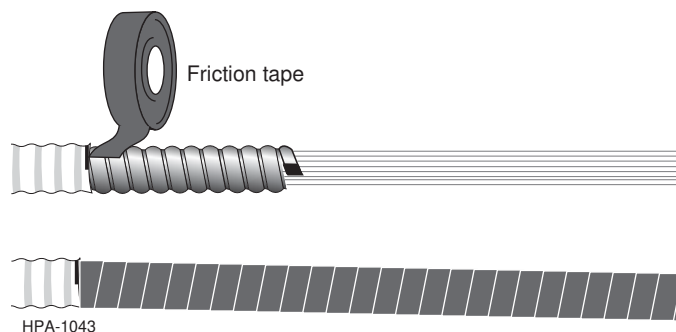

Figure 23
5.14 Place a wrap of friction tape over the exposed armor and over the entire length of the exposed cable core (Figure 23).